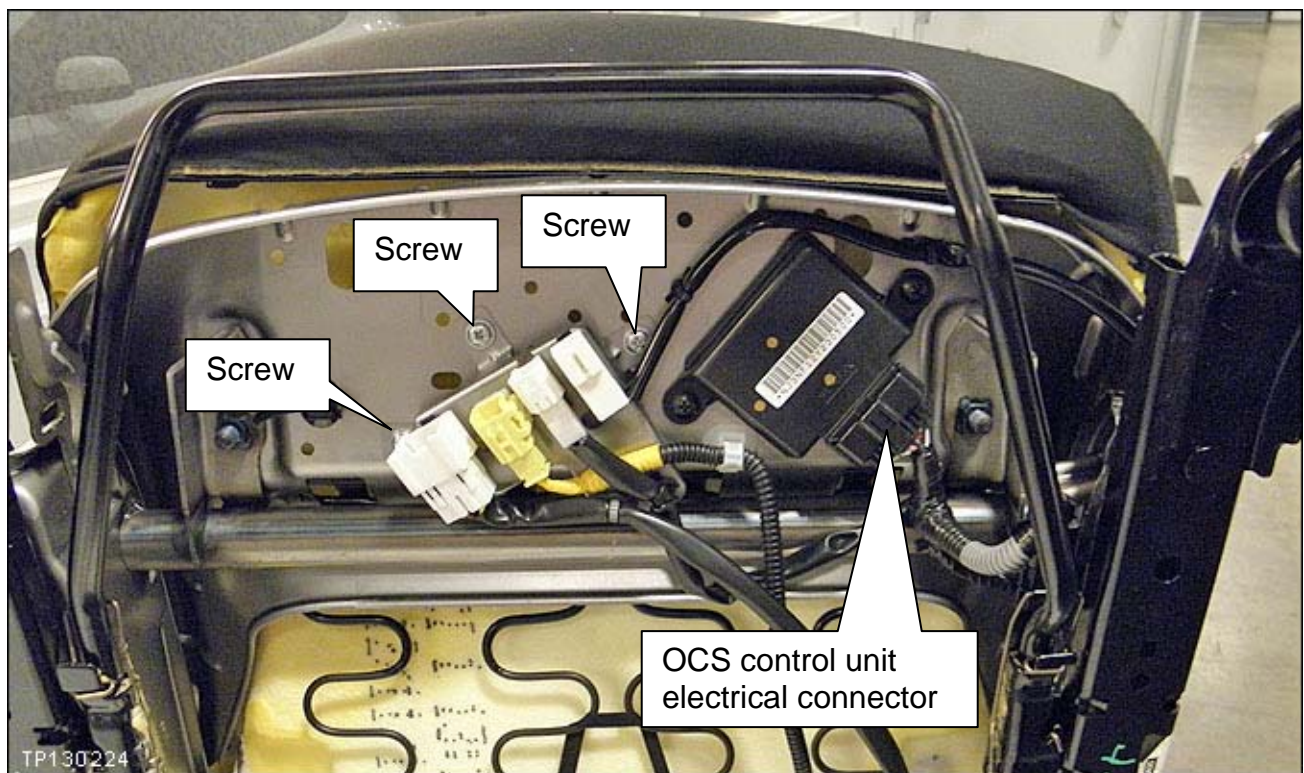

Figure 27
35. Reinstall the 3 screws shown in Figure 27.
36. Reconnect the electrical connector to the OCS control unit (see Figure 27).